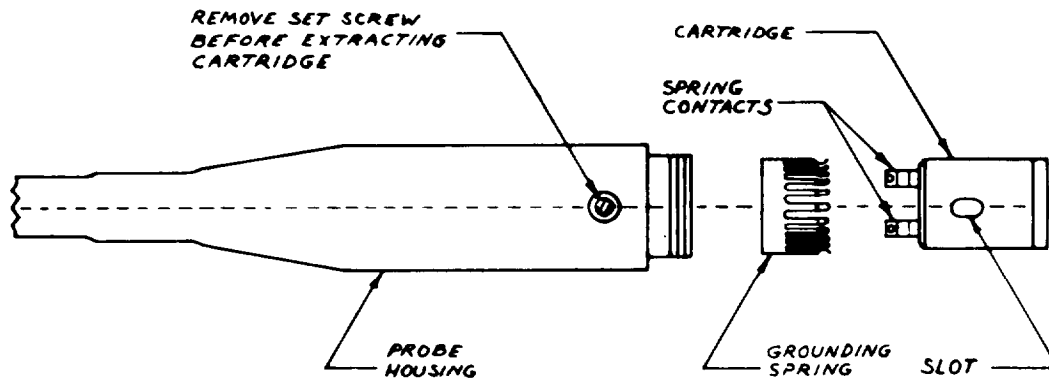

Figure 5-2. Probe and diode cartridge assembly.
a. Diode Cartridge: Diode failure results from excessive Rr, AC or DC inputs. To test, remove the exposed setscrew on the side of the probe housing, gently slide the cartridge out of the housing (see figure 5-2). Two (2) small spring contacts will be seen on one (1) end of the cartridge, Care should be exercised, not to damage these contacts,. By placing the DC multimeter, set to ohms, across the contacts, a forward-reverse resistance ratio of approximately 800 times should be noted with approximately 5K in the forward direction. Any other reading would indicate a faulty cartridge. If faulty, replace.
Finally, the grounding spring is inserted (note the correct position as shown in figure 5-2). Positioning the spring may be facilitated by gently pushing the cartridge all the way into the housing several times. When the spring is in its correct position, the fingers will be flush with the edge of the probe housing. With a little thumb pressure, the cartridge should slide smoothly back and forth against the spring-loaded socket assembly inside the probe housing. If it binds and does not fully return after being depressed, the grounding spring fingers may be curved excessively outward. The spring should be removed and the fingers flattened very slightly by pinching them between the smooth area of a pair of long-nosed pliers.